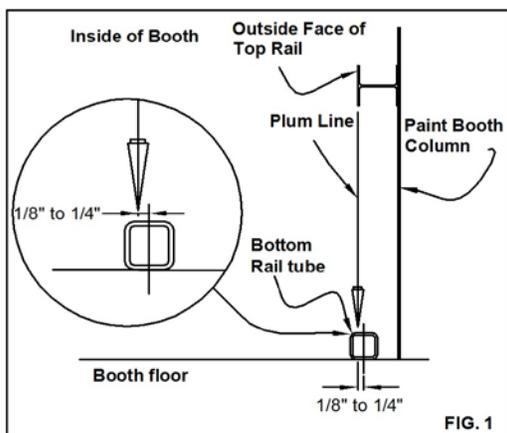

FIG. 1
- A. After top rail has been installed, locate the bottom rail tube as shown in figure 1. Drop a plumb line from the outside face of the top rail to the booth floor. The bottom rail tube center line should be between  $\frac{1}{8}$ " to  $\frac{1}{4}$ " offset toward the booth wall (see figure 1)